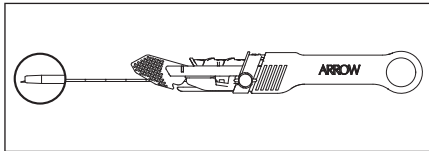

Figure 3
- Retract the guidewire slider to the 2 cm mark (refer to Figure 3).
- Advance the catheter forward approximately 3 mm (refer to Figure 3).